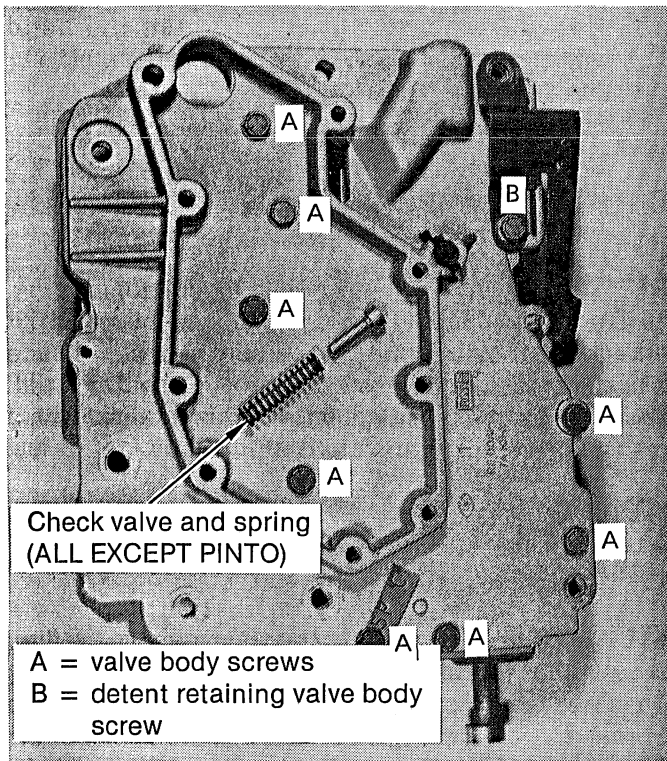

FIGURE 6
STEP 7. Turn the valve body over and remove the filter screws. (See Fig. 5). Remove filter and set it aside. Note: These screws are long. All except Pinto will have a check valve and spring under a tab in the corner of the filter. Remove the valve and spring and set them aside. (See Fig. 6)
STEP 18. Install **transfer plate** assembly onto **casting**. Make sure that all casting end plates and pins are below machined hydraulic surface. Make sure casting check ball is in place. (See Fig. 7) Install eight medium length valve body bolts in place in position shown in Figure 6. Tighten finger tight. The **casting** and **transfer plate** should be flat against the **separator plate**. If it is not there is an interference problem that must be corrected. Do not install detent roller spring yet.